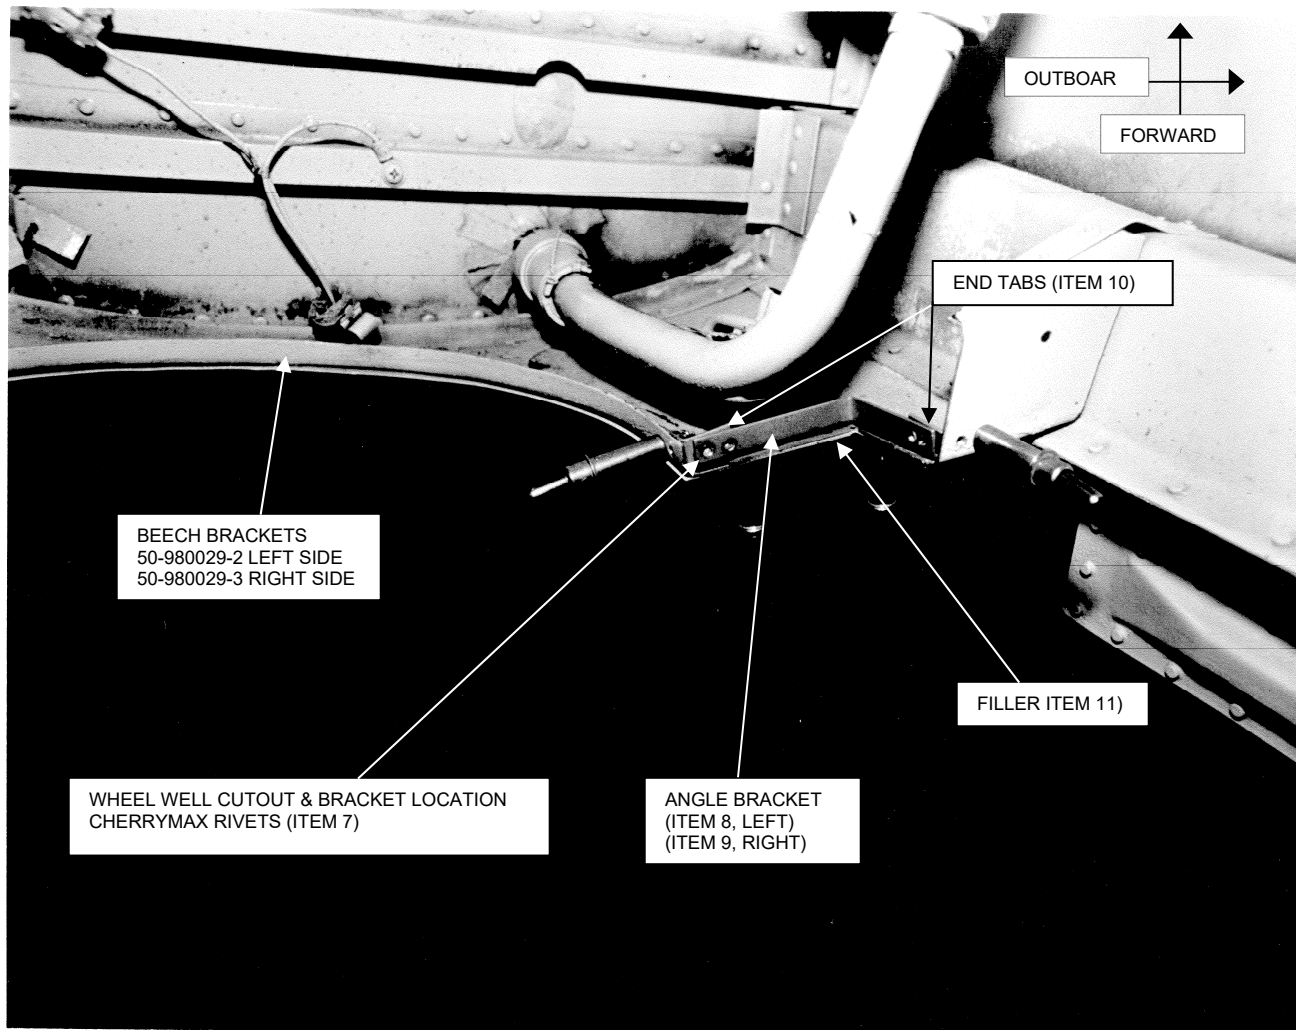

Figure 2 Beech Brackets
- b. Cut and remove the brackets, Beech Part No. 50-980029-2 left, 50-980029-3 right section and lower skin. See Figure 2 for Beech bracket identification.
- f. Place the filler (11) along the cutout area and drill to match the location of the brackets (8 and 9).
- g. Fasten the brackets (8 and 9) and the filler (item 11) into place with Cleco or an equivalent fastener system.
- h. Secure the brackets (items 8 and 9) and the filler (item 11) with sixteen rivets (item 7) as shown in the installation drawing 50-80.
- i. Secure the following with rivets (7). See Figure 2 and installation drawing 50-80:
- Two end tabs (10) to the left side brackets (8) and Beech P/N 50-980029-2
- Two end tabs (10) to the right side brackets (9) and Beech P/N 50-980029-3